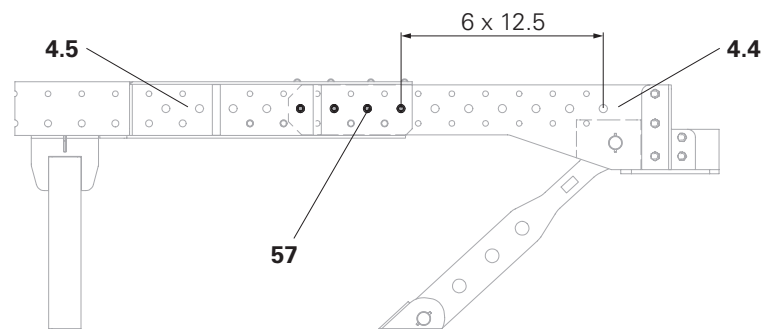

Fig. B1.11
- ⇒ The four filler pins (57) must be inserted in the four outer holes of the telescopic arm guide (4.5).
- ⇒ Also when fully extended, all four filler pins (57) must be securely inserted.
- ⇒ The telescopic arm (4.4) must always be fixed with all four filler pins (57).
- (Fig. B1.11)